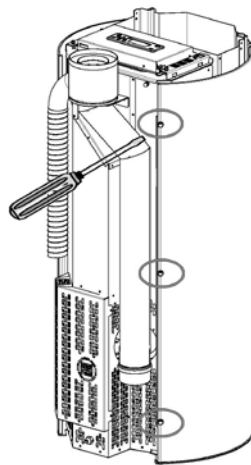

Fig. 28 - Remove screws
- Loosen the rear screws of the sides (see **Fig. 28**).